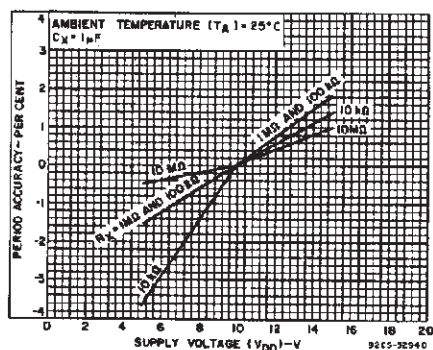

Fig. 11—Typical astable oscillator or Q, Q̄ period accuracy vs. supply voltage.
B. Variations Due to V_{DD} and Temperature Changes — In addition to variations from unit to unit, the astable period varies with V_{DD} and temperature. Typical variations are presented in graphical form in Figs. 11 to 16 with 10V as reference for voltage-variation curves and 25°C as reference for temperature variations curves.